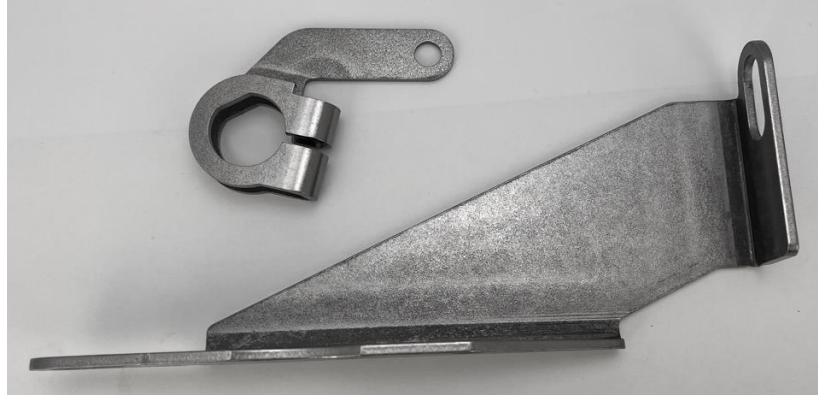

Figure 7
- Grab the Chrysler / AMC selector lever and cable bracket from the included parts kit (figure 7):